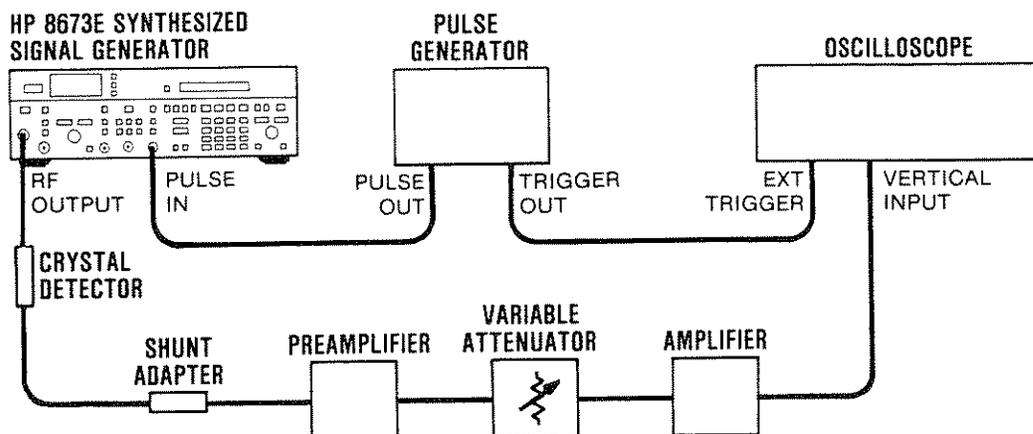

Figure 5-43. Pulse Amplitude Control Adjustment Test Setup
2. Connect the equipment as shown in Figure 5-43.